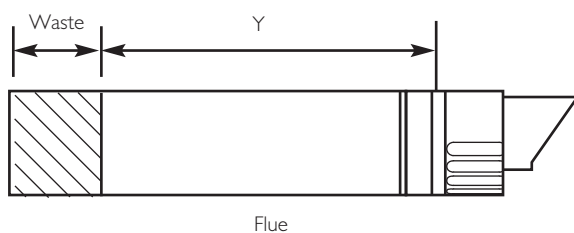

Fig. 33
5. Mark dimension 'Y' on the flue as shown (Fig. 33). Carefully cut the waste material from the flue, ensuring that the ducts are square and free from burrs.